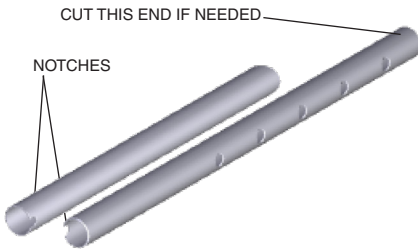
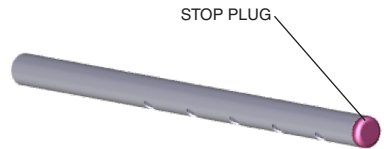

Figure 8—Outlet and inlet tube notches
Figure 9—Inlet tube with stop plug
*When cutting an inlet (sampling) tube, always cut the end opposite of the notch (see Figure 8). If the end with the notch is cut, the tube will not seat in the connector fitting properly, and proper orientation may not be possible. Ensure that the end of the tube is then de-burred. When the inlet tube is cut to the proper length, install the stop plug securely into the end of the tube. See figure 9.*